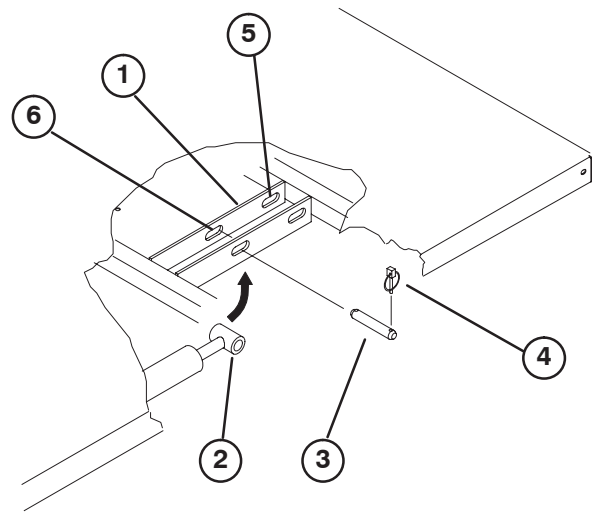

Figure 2
2. Remove lynch pins from outer ends of cylinder rod clevis pins (Fig. 2).